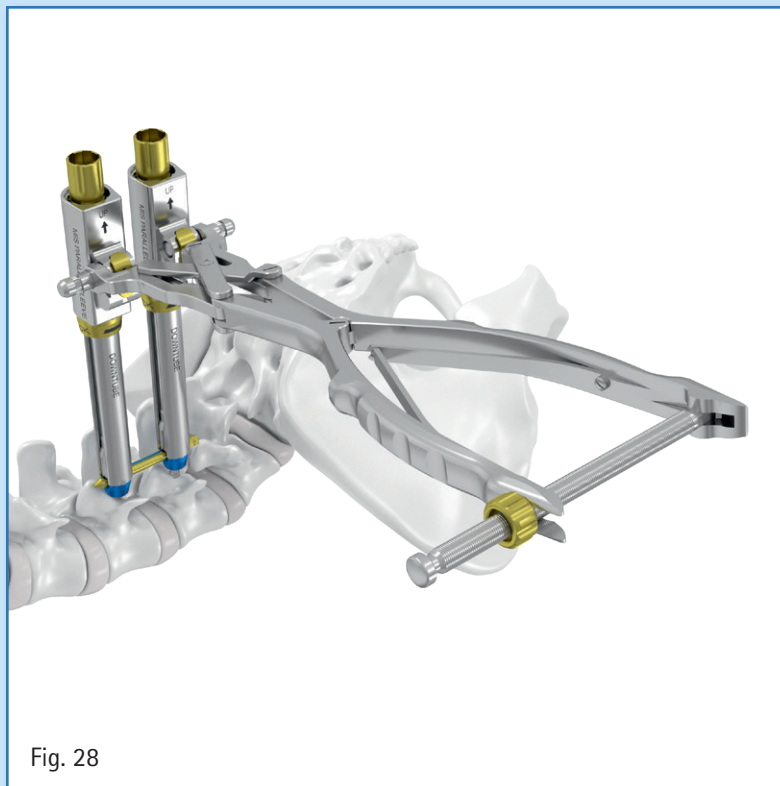

Fig. 28
3. For distraction, attach the Parallel Distractor Forceps (SZ231R) to the Sleeves. Respectively, attach the Parallel Compression Forceps (SZ232R) to the Sleeves for compression. (Fig. 28)